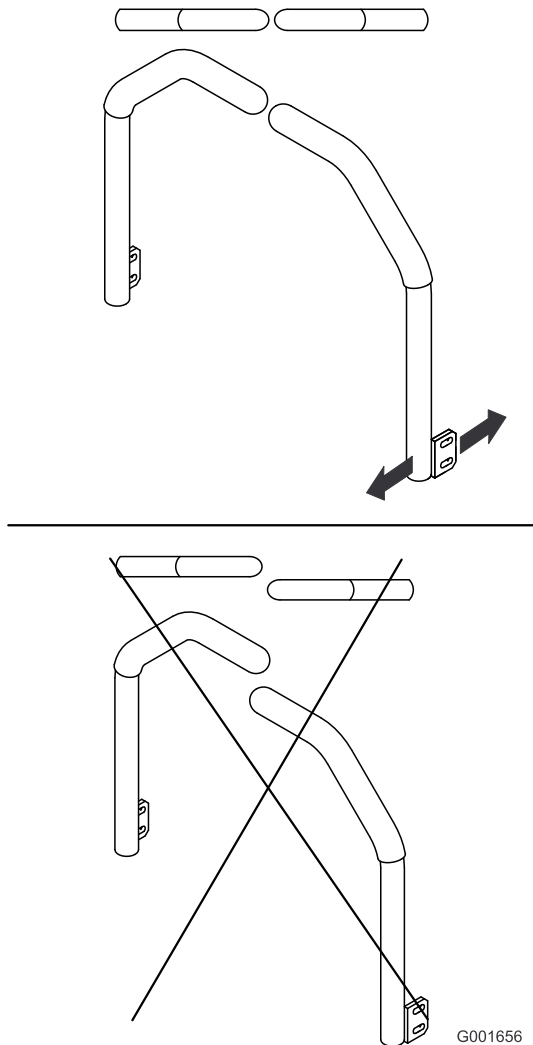

Figure 68
5. Adjust the control levers so that they line up (Figure 68) and tighten the bolts, securing the levers to the posts.